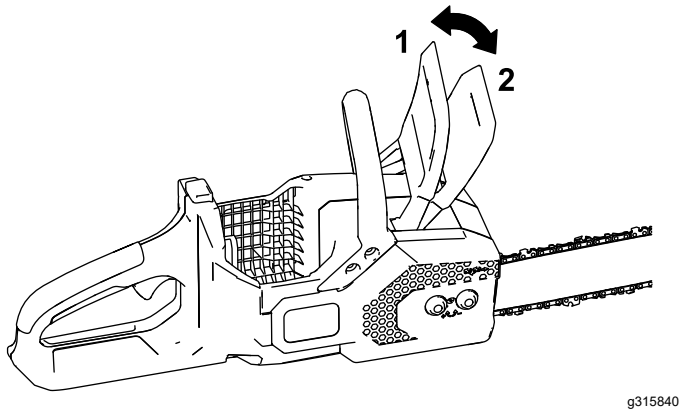

Figure 25
1. Engage the chain brake by moving the chain brake forward to the STOP position (Figure 25).
4. Disengage the chain brake by moving the chain brake rearward to the OPERATING position (Figure 25).
4. Ensure that the chain brake is in the OPERATING position (Figure 25).